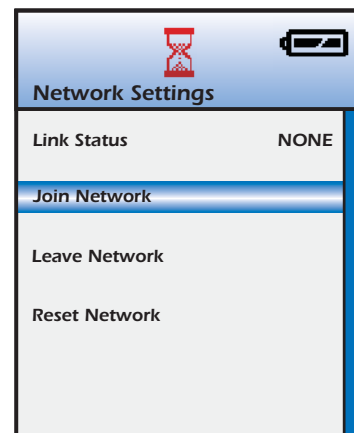

Figure 43
1. A brand new MODE Free or a MODE Free that has been removed from the wireless network will default to the **Network Settings Screen**. (Figure 43)